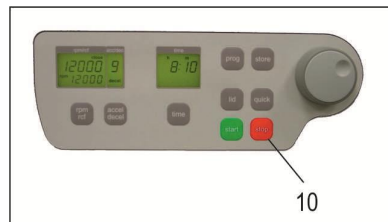

Figure 26
By the „stop“ key (10) (see figure 26) you can interrupt the run at any time. After pressing the key the centrifuge decelerates with the respective pre-selected intensity down to stand still.
At the right side of the centrifuge there is a plastic stopper (Figure 26). Remove this stopper, which is connected to the lid lock, horizontally from the housing until the centrifuge lid opens.